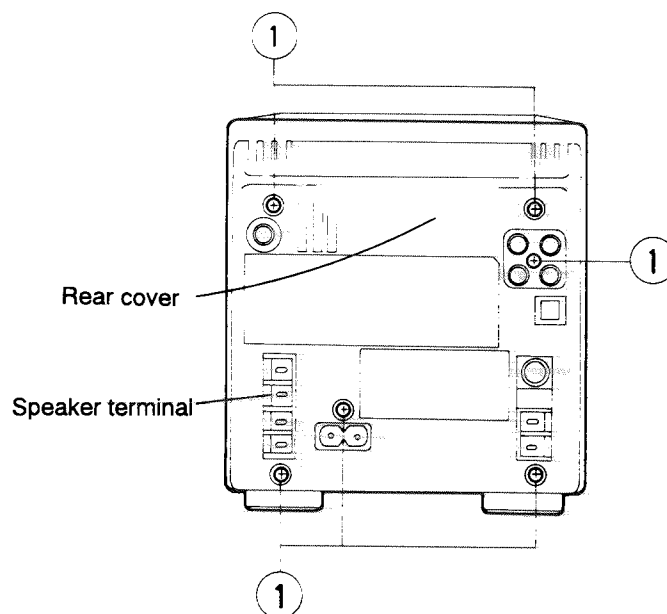

Fig. 5-1
■ Removing the rear cover and side panel (See Figs. 5-1~5-4)
1. • Remove the six screws ① retaining the rear cover from behind the body.
• From the bottom face of the body, remove the four screws ② retaining the rear cover.
• After passing the lock pawls at the speaker terminals through the position in Fig. 5-1, remove the rear cover.
2. • Remove the two screws ③ retaining both of the right and left side panels.